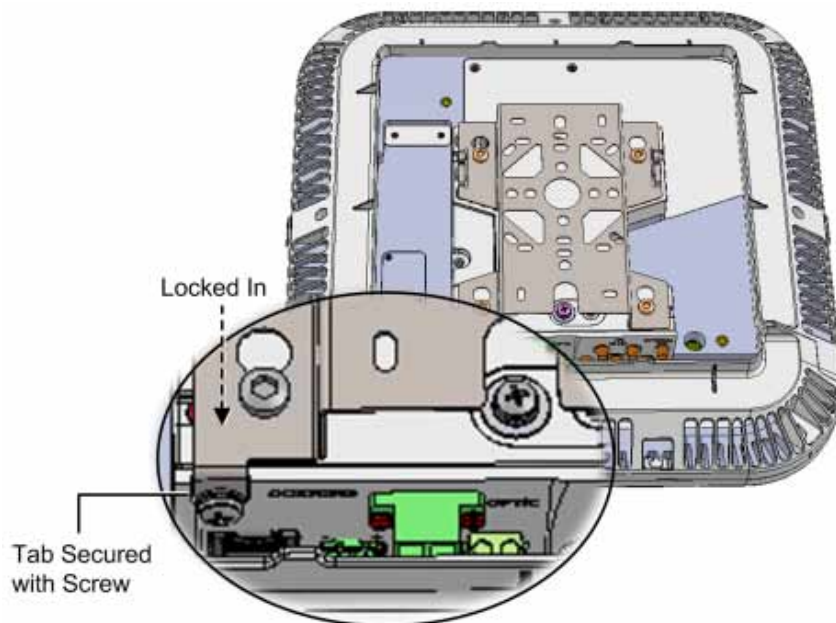
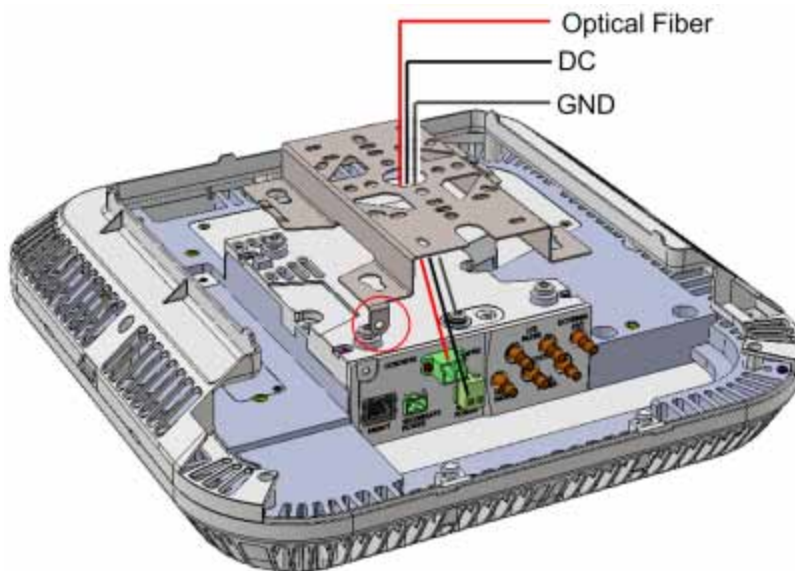

Figure 5-70. RAU and Bracket Assembly
Figure 5-71. Mounting RAU onto Mounting Bracket
9. For configurations with GEM module (see Figure 5-71):
2. Referring to Figure 5-71 and Figure 5-70, insert the RAU pins (four) into the bracket key-holes and lock in.
Note: The safety screw tab (circled in Figure 5-71) should be in the same direction of the RAU connectors.
3. Secure the bracket safety screw tab to the RAU using an 8-32X3/8, Pan Head, Philips screw (provided). See Figure 5-70.